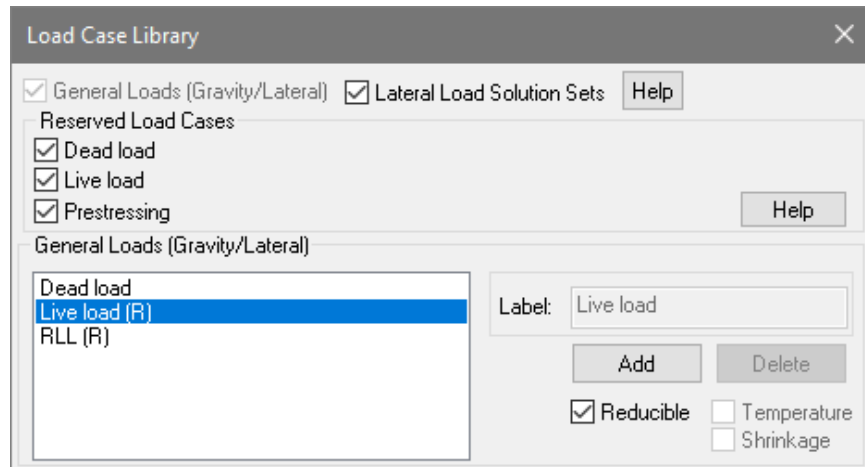

Figure 15-3
- Go to *Loading* → *Load Case/Combo* and click on the *Load Cases*  icon. In the *General/Lateral load case* window, select *Live load* and select the check box to *Reducible*. This allows the load case to be assigned reduction factors for columns. **FIGURE 15-3.**